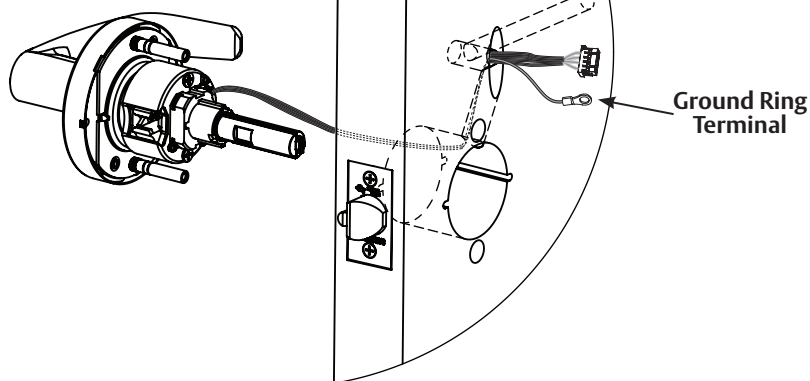

Fig. 7B Detail
2. Continue to feed harness into raceway (towards top of door), exiting raceway hole on inside of door (Fig. 7B).